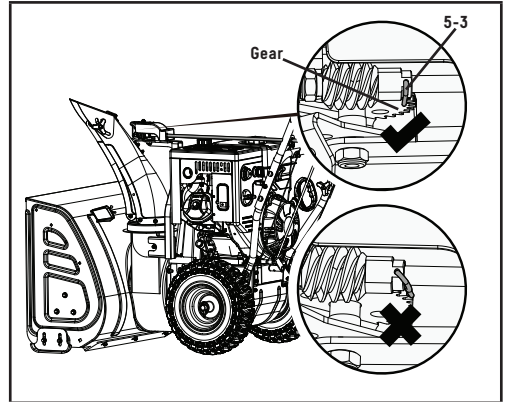

Figure 8B
3. Align the lever and the gear, and then connect the R pin (5-3). (Fig. 8B)
Ensure the R pin is positioned as shown in Fig. 8B.